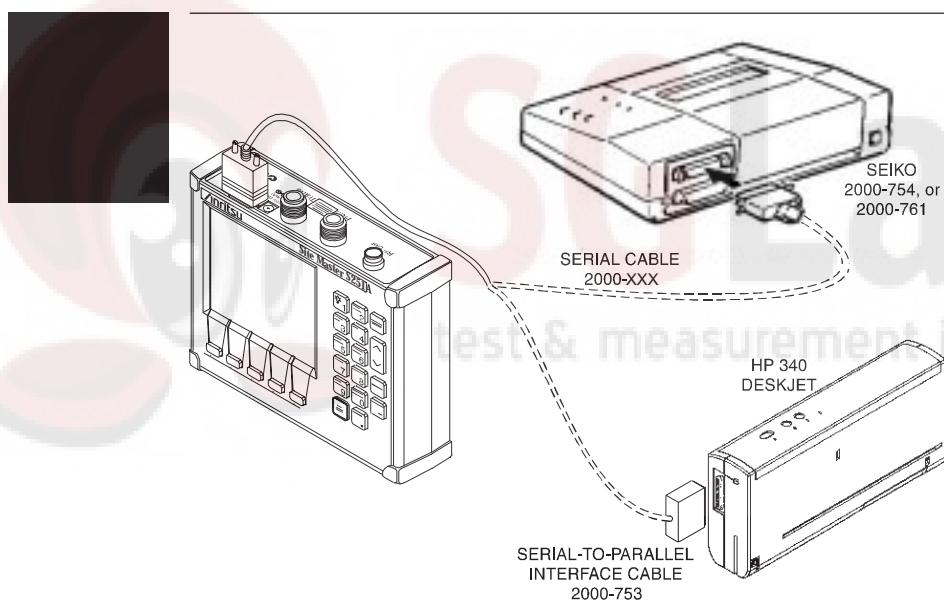

Figure 2-9. Printer Setup
Printing is accomplished with any of the following printers: the Seiko DPU-411 thermal printer, the Seiko DPU-414 thermal printer, or the Hewlett Packard DeskJet 340 ink jet printer. Figure 2-9 shows a setup diagram for these two types of printers.
- Step 1.** Connect the printer as shown in Figure 2-9.